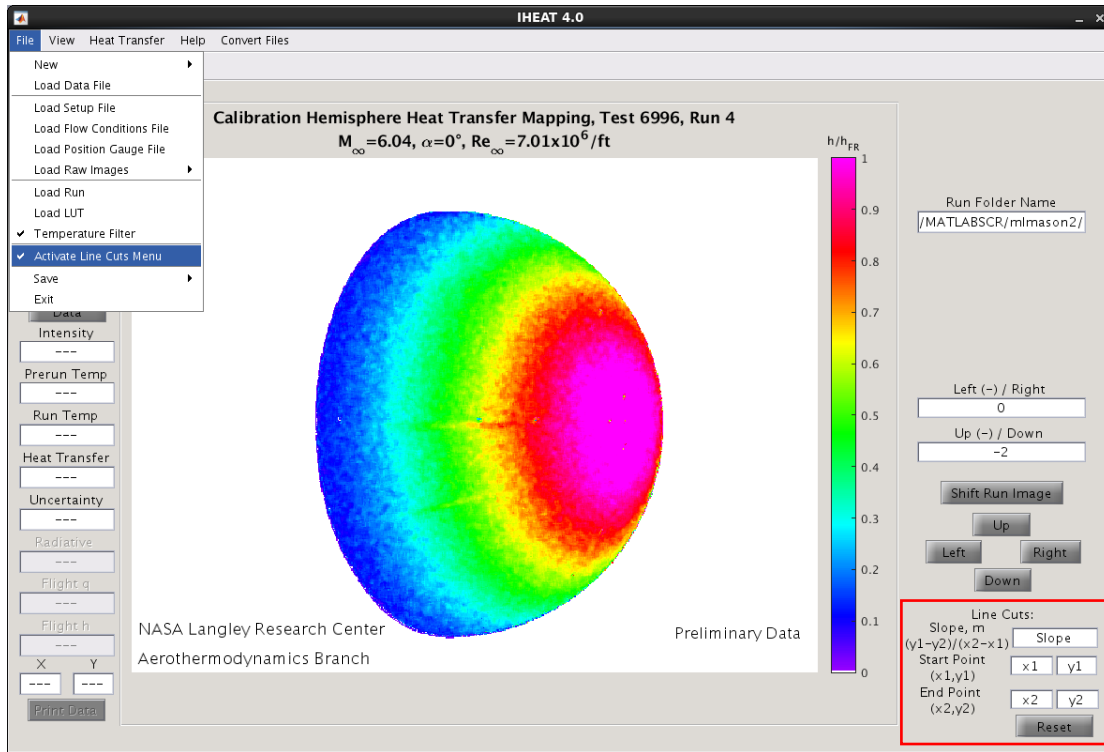

Figure 4: File Menu, Activate Line Cuts Menu.
8. Another feature in the *File* menu is the *Activate Line Cuts Menu*. When this menu is toggled on, a check mark appears beside the item in the *File* menu, and the user interface changes as indicated by the red box in figure 4. This item allows the user to type in the (x, y) pixel locations for the endpoints of a line cut. When the user specifies two x values and two y values in the text boxes, the slope of the line is automatically calculated and displayed. After a line is specified, the reset button can be used to change the five text boxes back to the default strings shown in figure 4.